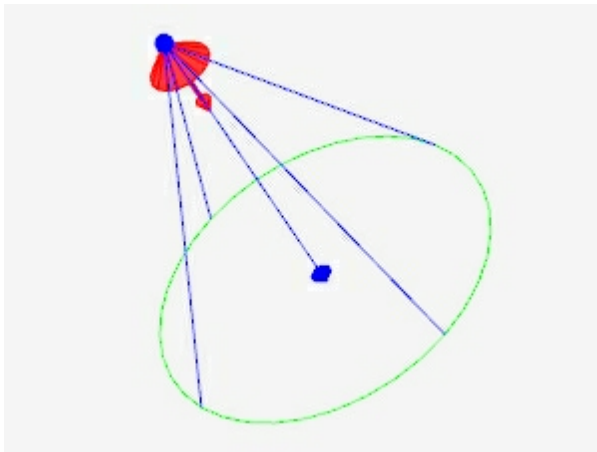

Figure 8
1. Move the mouse over the **light circle** (Figure 8). The circle will be displayed in **light green**.